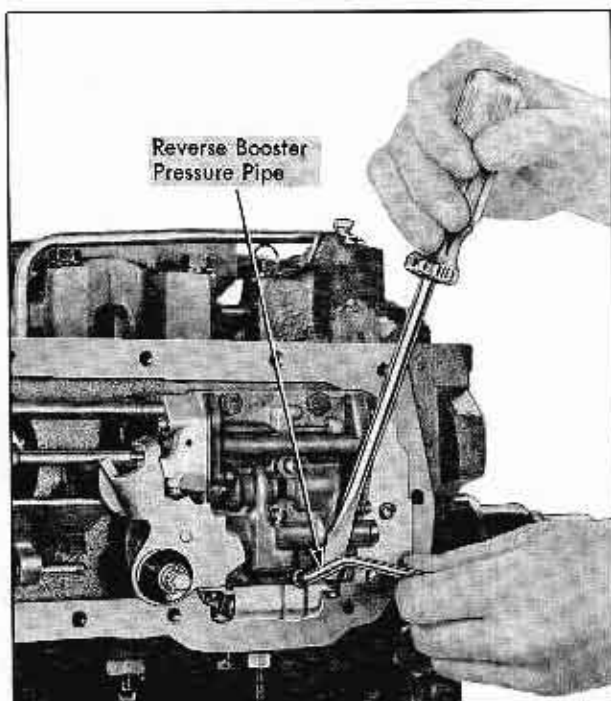

Fig. 14-16 Removing Reverse Oil Pipe
1. Using screwdriver, remove pressure regulator reverse oil pipe from valve body and case. Fig. 14-16.